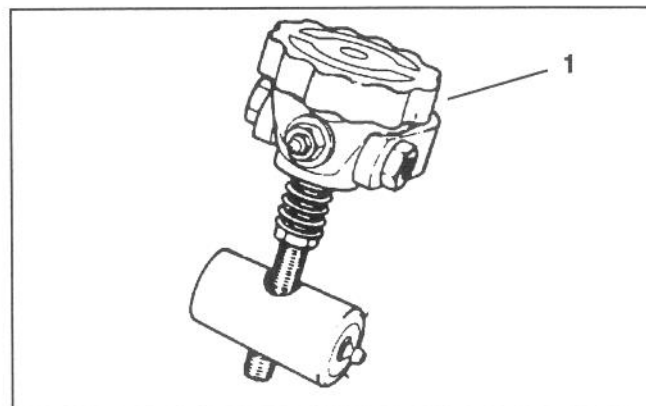
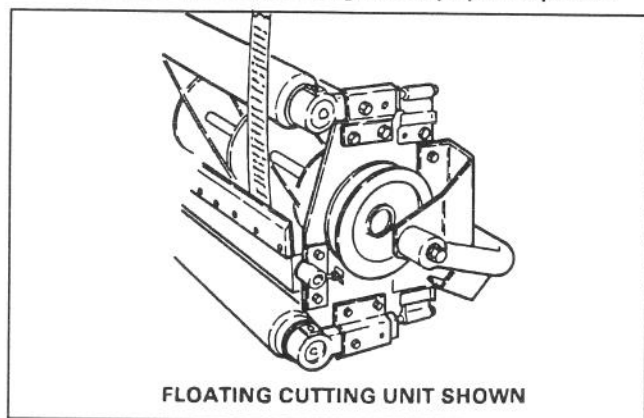

Figure 9
Figure 10
1. Make sure reel contact is removed by turning bedknife adjustment knob counterclockwise (Fig. 9). Tip cutting unit to gain access to reel and bedknife (Fig. 10).